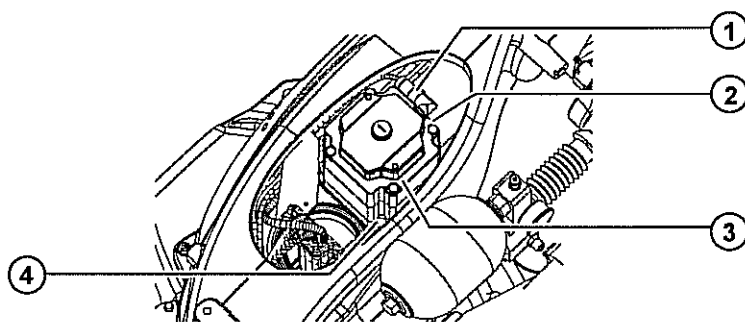

Fig. 12-1: Removing motor A1
1. Release and unplug connectors XM1 and XP1 at the sockets (>>> Fig. 12-1).